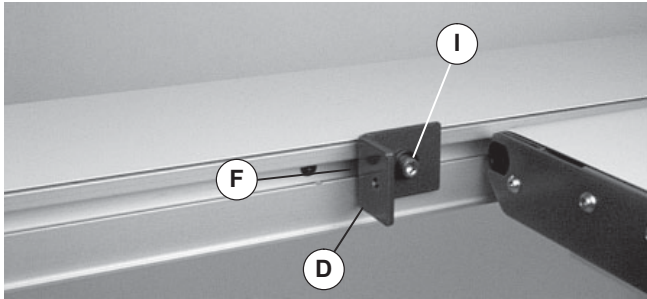

Figure 17
3. Loosely attach 90° bracket (Figure 17, item D) to T-bar (F) using screw and washer (I).